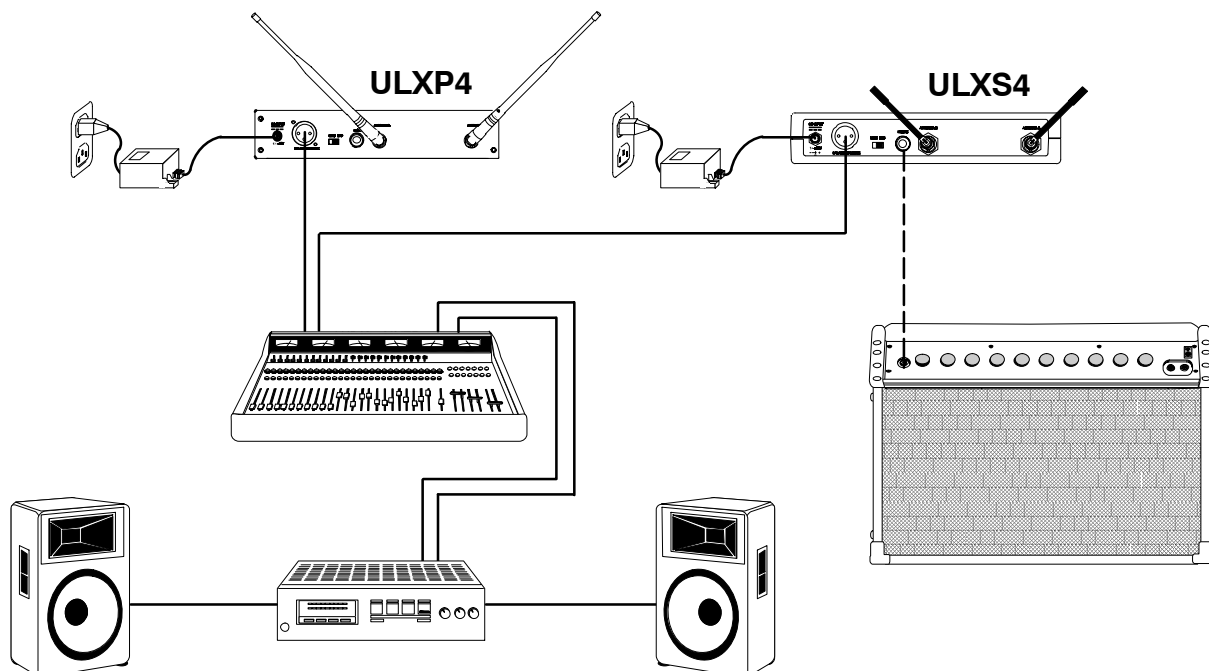

FIGURE 6
3. Connect audio cable(s) (not supplied) from the audio output(s) to the audio input(s) of your audio system, mixer and/or amplifier, as shown in Figure 6.